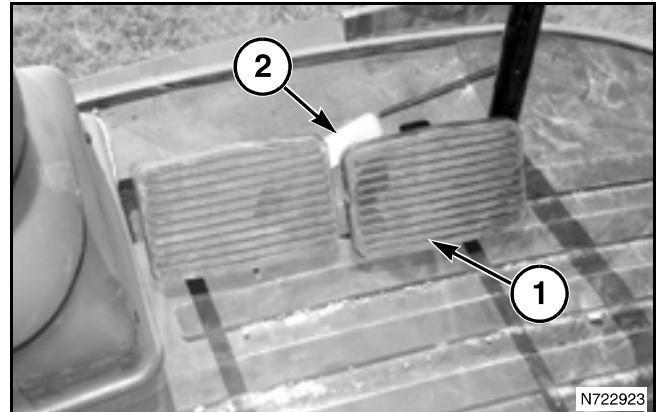

FIG. 43
FIG. 43: The brake pedals (1) must be pressed at the same time to stop or slow the combine. Engage left-hand or right-hand pedal separately to help in turning the combine when sharp turns are required or when fields are muddy.